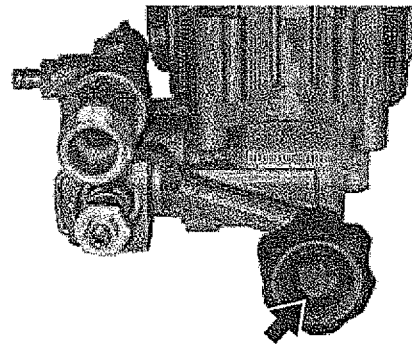

Figure 68 – Water Filter Screen WP2800 Shown
2. Remove the cone-shaped water filter screen from the water inlet hose fitting (see Figure 68).